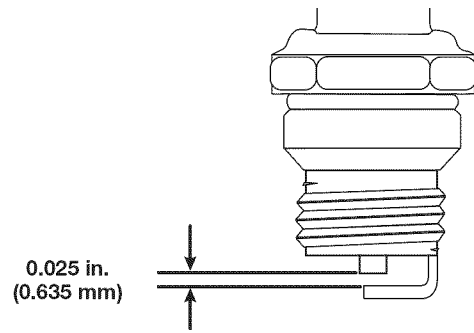

Fig. 13
4. Use a feeler gauge to set the air gap at **0.025 in. (0.635 mm)** (Fig. 13).